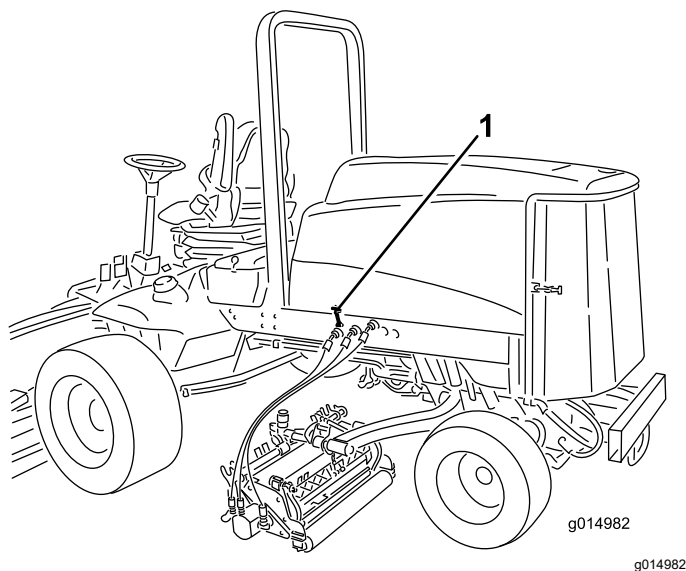

Figure 46
1. Release the hood latches (Figure 46) and pivot open the hood.